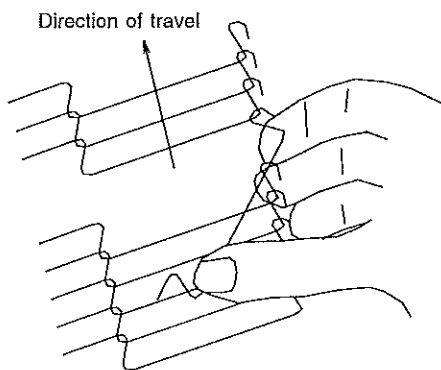

Figure 4-30.
**NOTE:** The outside master links have right and left sides to them. The right edge master link has an open hook facing you as shown in Figure 4-30. This will match up with the outer edges of the conveyor belt. Remember this hook travels backwards on the conveyor.